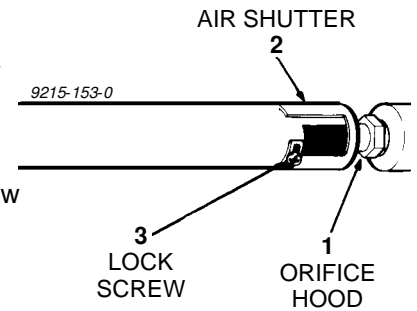

FIGURE 6
1. Yellow flame on burner - open burner air shutter to the widest opening that will not cause the flame to lift or blow off the burner when cold. (See #2 on figure 6).
2. Distinct blue flame but lifting - close burner air shutter to the point where it will not cause the flame to lift or blow off the burner when cold. (See #2 on figure 6).